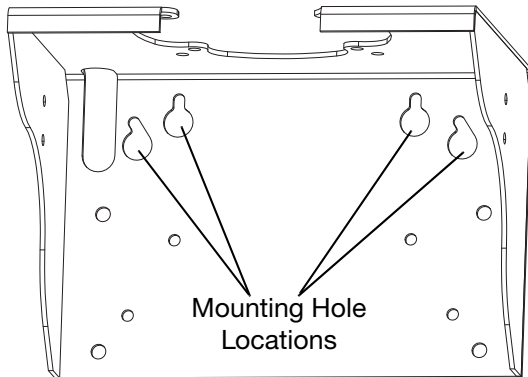

FIG. 29: Wall Mount Hole Locations
2. Ensure the wall mount is level using the wall bracket as a template. Drill four 7/16 in (11 mm) diameter holes for the mounting bolts. See **FIG. 29** for the mounting hole fastener locations.